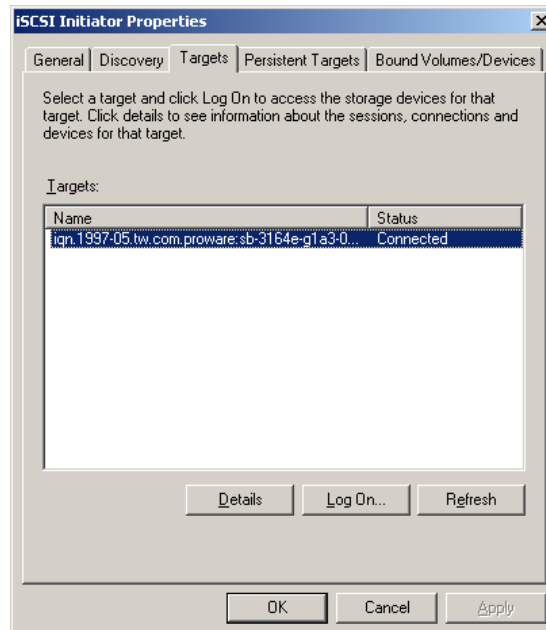

Figure D.7
8. Click **“OK”**. The status would be “Connected”. Please see Figure D.7.